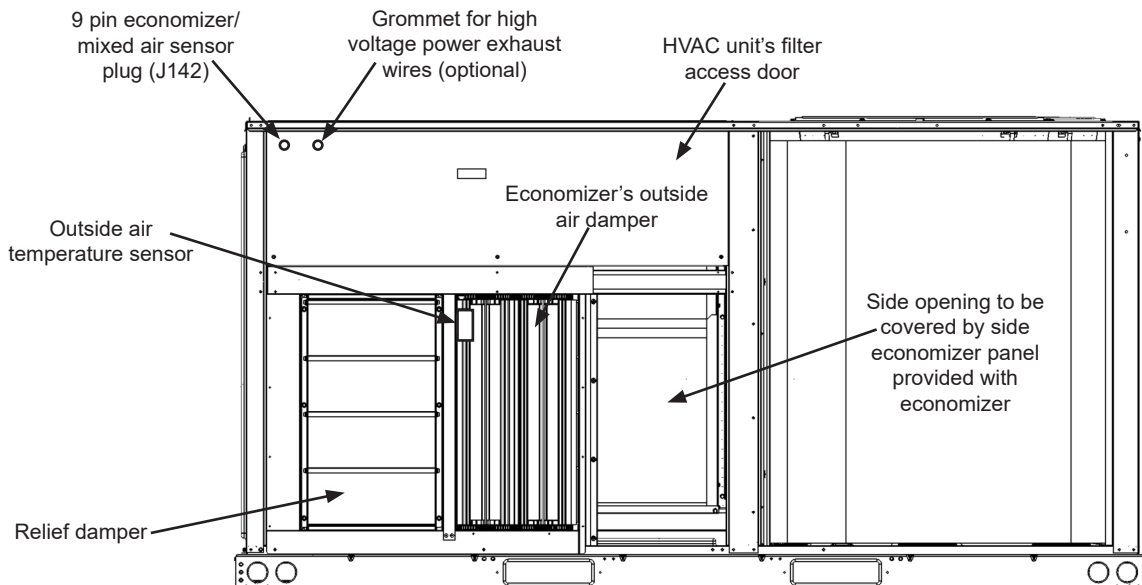

Figure 5 - Front View
1. Install economizer side panel to the right side of economizer, see Fig. 5 and 6. Screw panel to economizer on left side, and into door bracket on right side of panel.